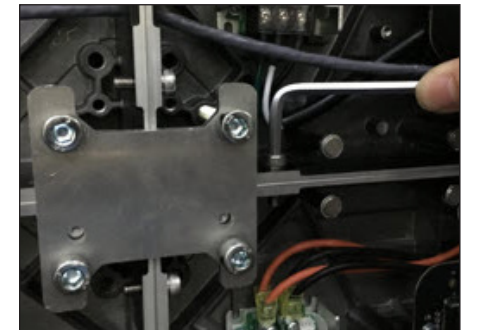

Figure 28: Align Panel Faces
- Use a 6 mm Allen wrench to attach the flattening jig to the front of the panels, and ensure the panel faces are completely flush. Refer to **Figure 28** and **Flatten Panels (p.4)**.
- Use a 5 mm Allen wrench to tighten the socket-head screws, but do not remove the flattening jig. Refer to **Figure 28**.